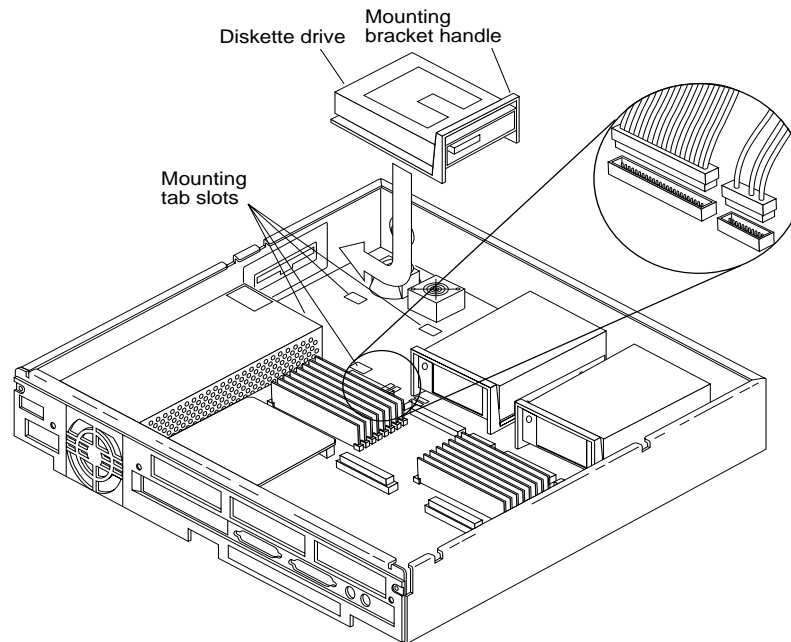

Figure 4-16 Removing and Replacing the Diskette Drive
7. **Grasp the diskette drive mounting bracket handle (see Figure 4-16).**
- 1. Align the four mounting tabs on the bottom of the drive mounting bracket with the slots in the bottom of the chassis (see Figure 4-16).**